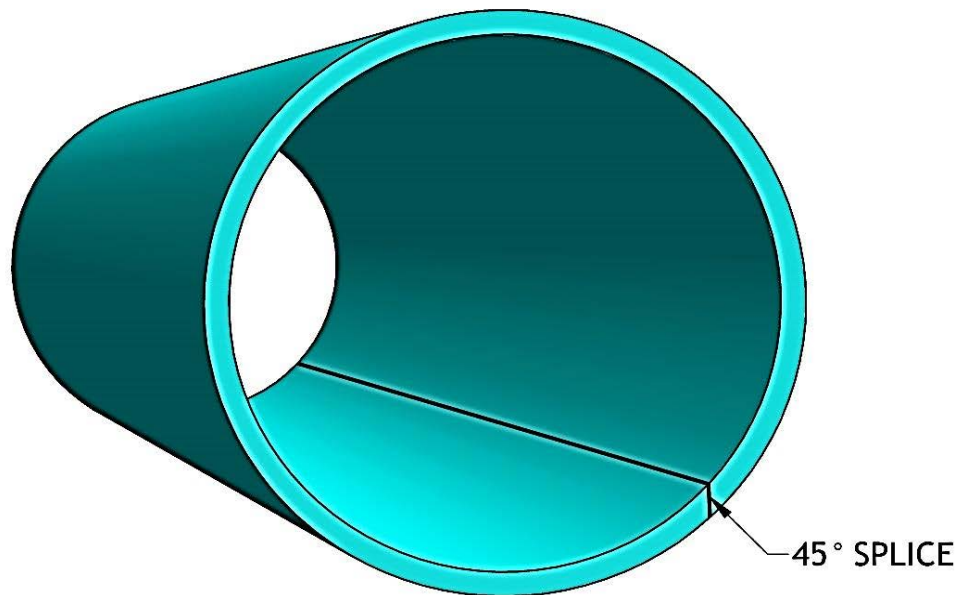

Fig. 8-1 Longitudinal skived butt splice
- 4.1 Form a tube with lining stock using longitudinal skived butt seams as illustrated in Fig. 8-1. To facilitate stitching of the skived seam, a metal strip is used inside the tube while it is being formed. The spliced tube’s outside circumference should be slightly less than the inside circumference of the pipe. The following formula is a suggested guideline for cutting width of tubes.